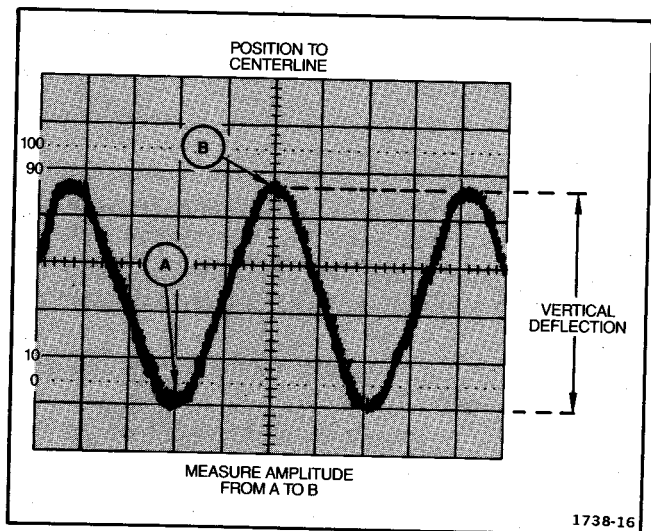

Figure 3-1. Measuring peak-to-peak voltage of a waveform.
- Vertically position the display so that the negative peak of the waveform coincides with one of the horizontal graticule lines (see Figure 3-1, Point A).
- Horizontally position the display so that one of the positive peaks coincides with the center vertical graticule line (Figure 3-1, Point B).
- Measure the divisions of vertical deflection from peak to peak (Figure 3-1, Point A to Point B).
EXAMPLE. In Figure 3-1, the measured peak-to-peak vertical deflection is 4.6 divisions using a 10X attenuator probe with the VOLTS/DIV switch set to 5 V (10X PROBE).